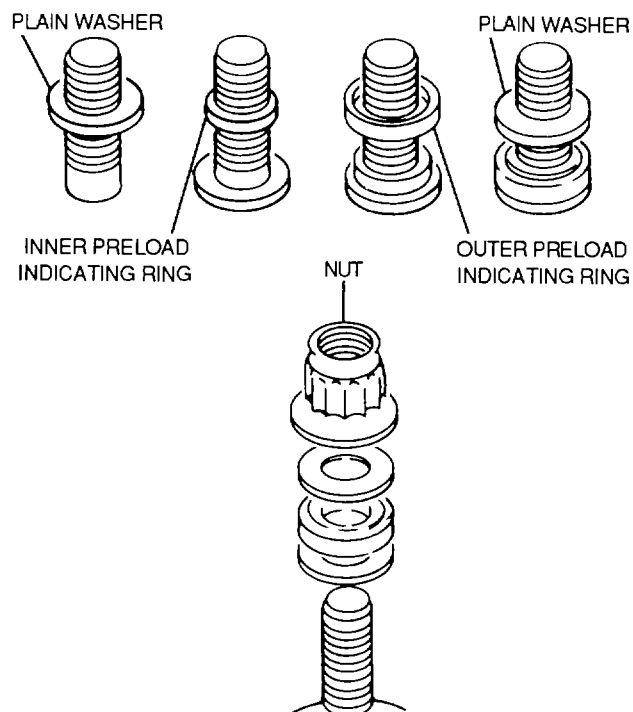

Figure 8-31. Installation of Preload Washers on a Stud
(1) Installation of preload washer on stud. To install preload washers on a stud, see figure 8-31 and proceed as follows: